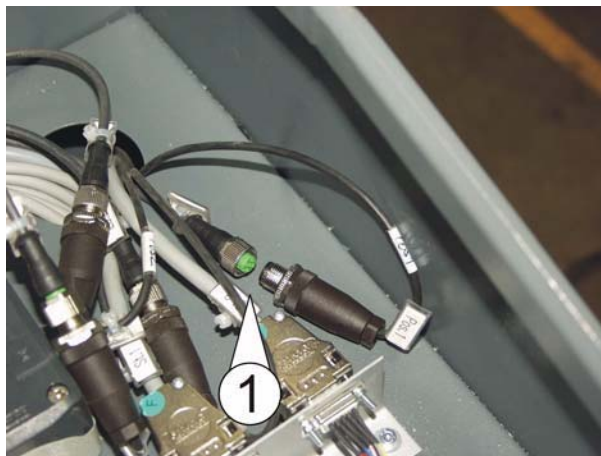

Fig. 9-2 Plug pos. 1
- ▶ Detach plug at pos. 1 (Fig. 9-2, page 32). This will deactivate the "top position" sensor.
- ▶ Carefully unscrew the bleeder screws (6) on both slave hydraulic cylinders. The pressure thereby decreases and the oil-air mixture escapes.
- ▶ Screw in the bleeder screws (6) until they are about halfway screwed in (about 3 revolutions).